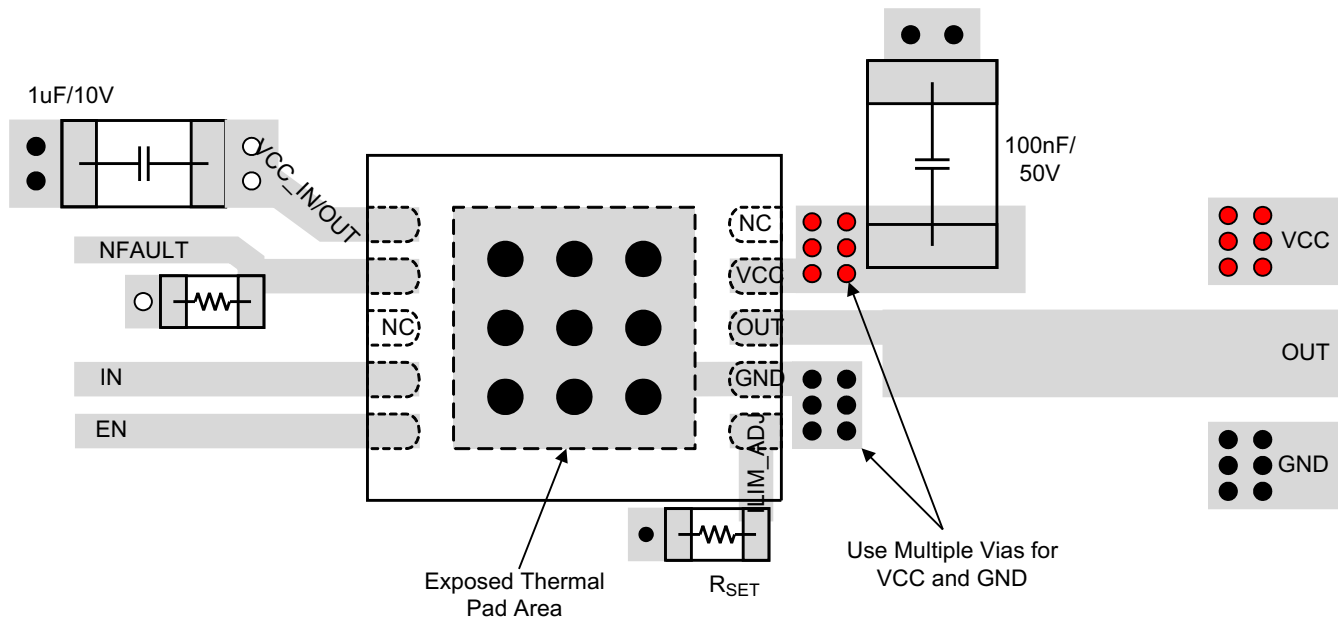

Figure 11-1. Layout Example
- The optimum placement of the capacitor is closest to the VCC and GND terminals to reduce supply drops during large supply current loads. See Figure 11-1 for a PCB layout example.